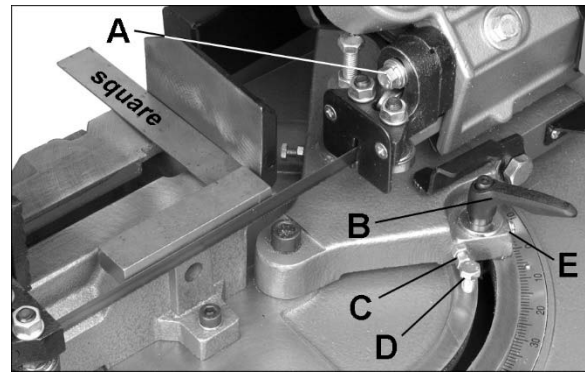

Figure 7-2
3. If there is a gap, loosen bolt (A, Figure 7-2) on each blade guide assembly and rotate blade guide assemblies until gap is eliminated between square and ruler.
4. Retighten bolts (A).
1. Loosen handle (B, Figure 7-2) and make sure bow is swiveled enough that the stop screw (C) is contacting the fixed screw (D).
4. If vise and blade are square but pointer (E, Figure 7-2) is misaligned, loosen screw and adjust pointer until it aligns with zero on scale. Tighten screw.
Note: The handle (B, Figure 7-2) is adjustable. Simply lift up on handle and rotate it on the pin. Release handle, making sure it seats itself properly on pin.
4. Remove stop screw (D, Figure 7-2) and swivel bow until pointer lines up with 60° on scale. Tighten handle (B, Figure 7-2).